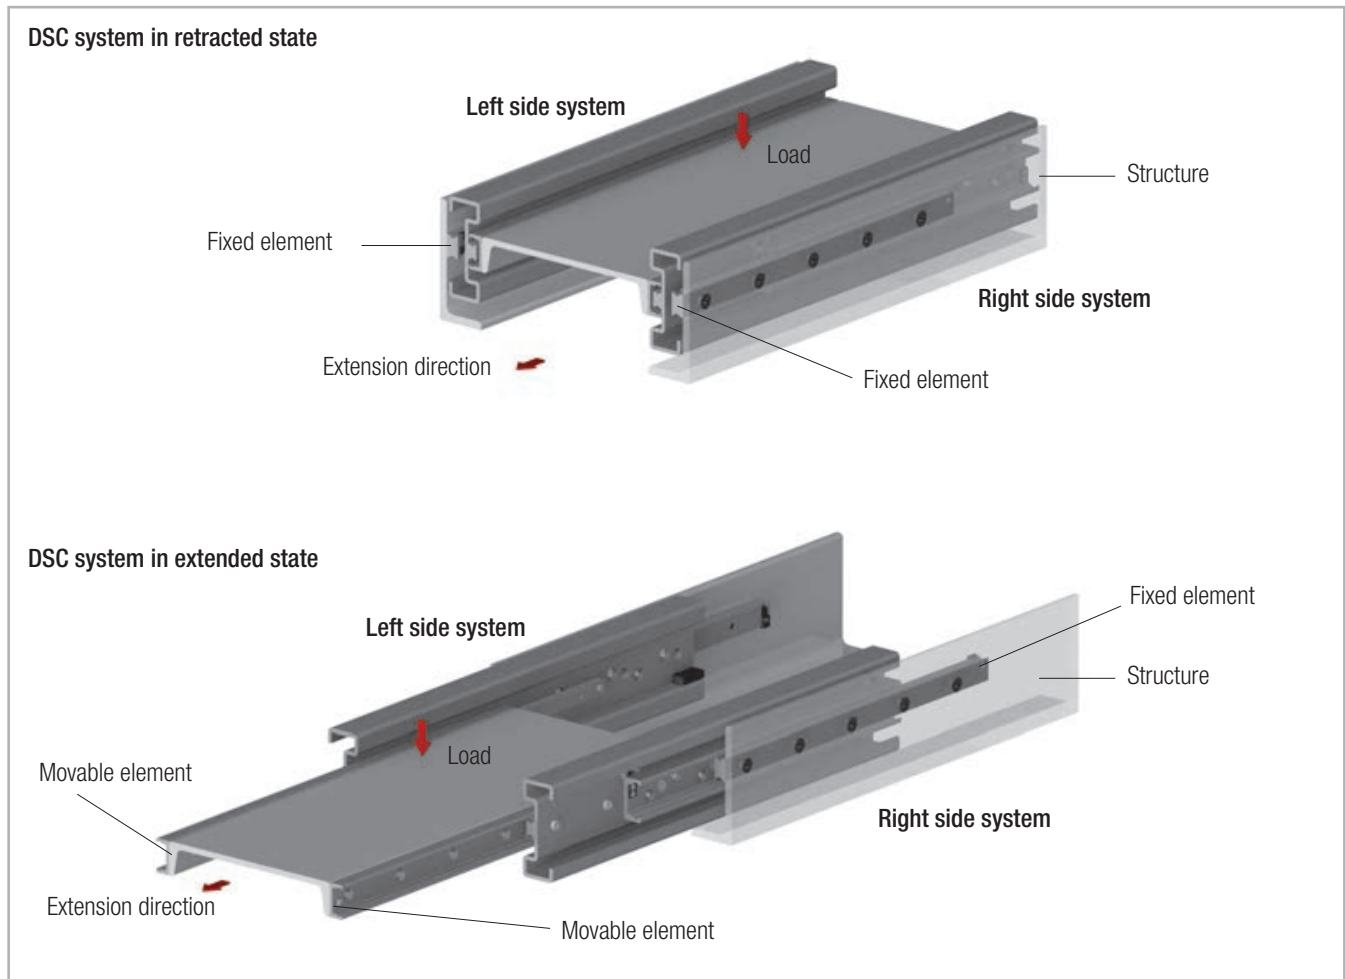

Fig. 75
- During installation make sure that the load is mounted on the movable element (see Fig. 75). Reverse installation will impair proper functioning.